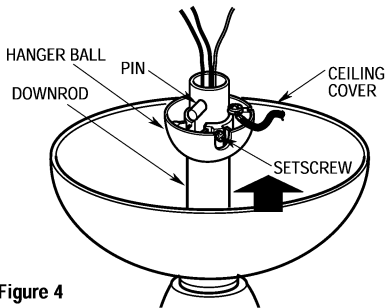

Figure 4
- 5. Reinstall the hanger ball (Figure 4) on the downrod as follows. Route the motor leads through the downrod. Position the pin through the two holes in the downrod and align the ball so the pin is captured in the groove in the top of the hanger ball. Pull the hanger ball up tight against the pin and securely tighten the setscrew in the hanger ball. A loose setscrew could create fan wobble.